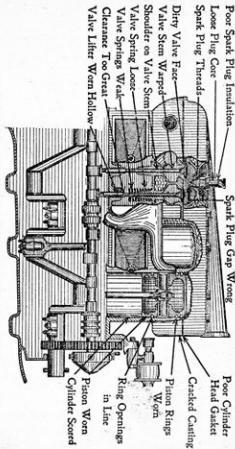

Figure 93.—Engine Troubles Causing Loss of Power.
3. Engine loses power. Figures 93 and 94.